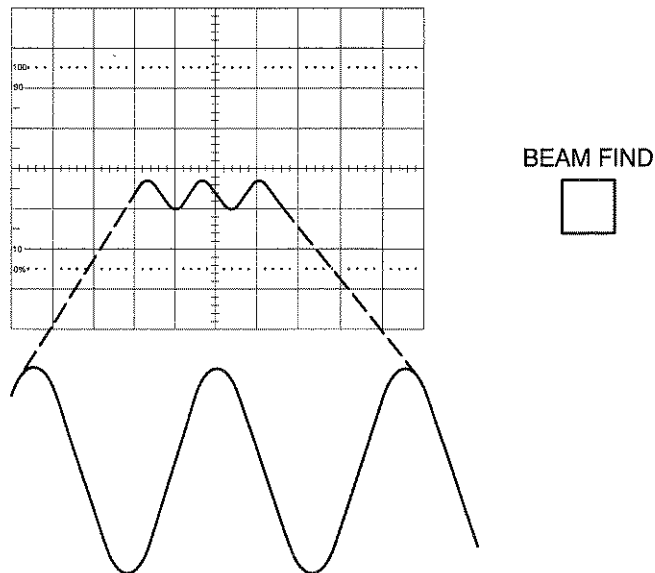

Figure 3-5: Beam Find
- Step 3:** Press the **BEAM FIND** button and hold it in. The beam of the CRT is now intensified and compressed into the viewing area (Figure 3-5).